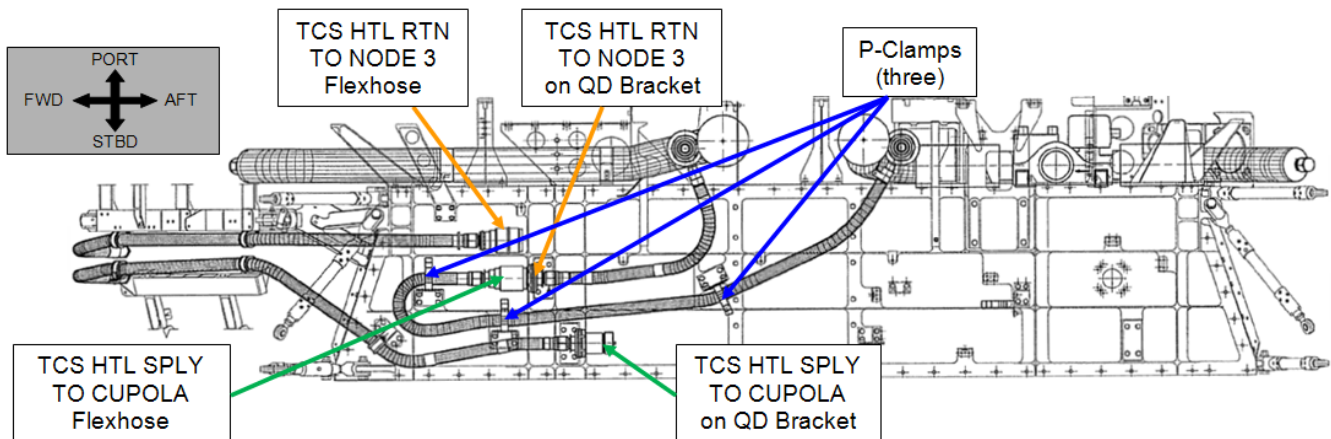

Figure 6.- Launch Configuration of Cupola HTL QDs (looking Overhead on Deck side of Deck Midbay).
Refer to Figures 6, 7, and 8.
1. Refer to Figures 6, 7, 8, and 9 for step 11.